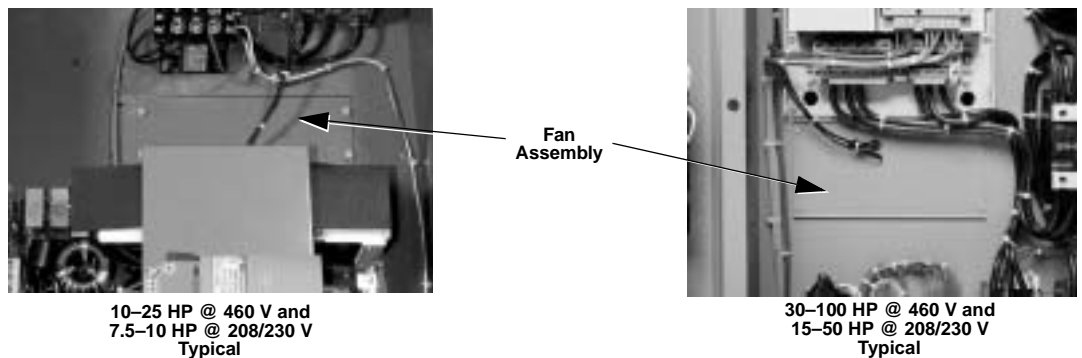

Figure 29: Heatsink Fan Assembly Location
- Remove the four screws securing the heatsink fan assembly. Keep the four screws. See Figure 29.
1. Install the heatsink fan assembly. Secure the assembly with the four screws saved from step 5 above. Torque the screws to 15 lb-in (1.7 N•m). See Figure 29 and Figure 31.